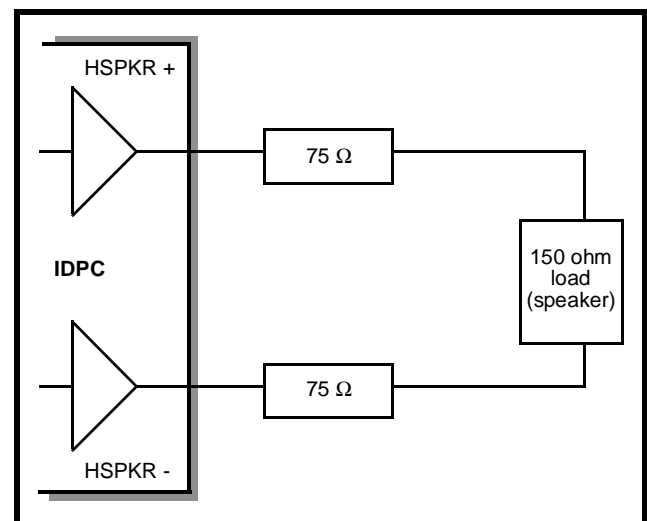

Figure 4 - Handset Speaker Driver
- ◆ The handset speaker outputs (receiver), pins HSPKR+/HSPKR-. This internally compensated, fully differential output driver is capable of driving the load shown in Figure 4. The nominal handset receive path gain may be adjusted to either -12.1 dB or -9.6 dB. Control of this gain is provided by the RxINC control bit (Control register 2, address 0Fh). This gain adjustment is in addition to the programmable gain provided by the receive filter and Digital Gain circuit.